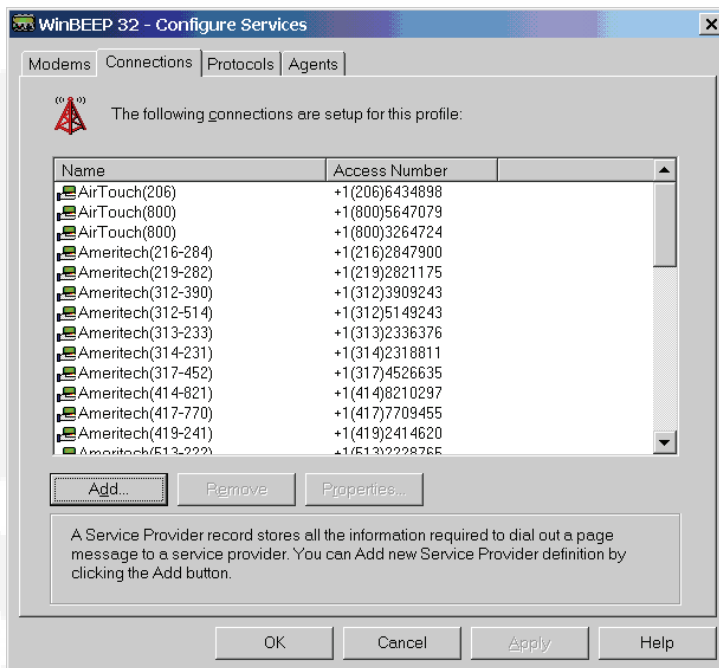

FIGURE 15-5. SERVICES – CONNECTIONS
1. Click on the **Connections** tab and then click on the **Add** button. Figure 15-5.